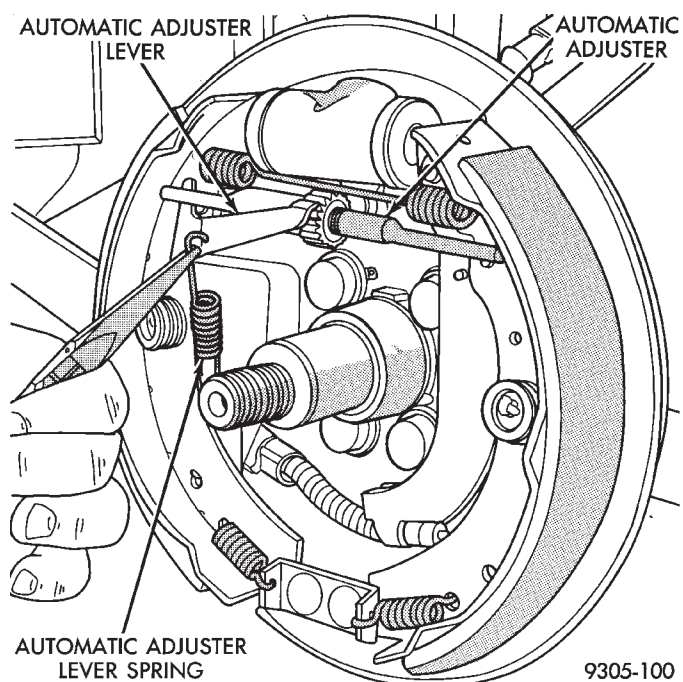

Fig. 2 Rear Hub And Bearing Retaining Nut Removal
(2) Remove the rear hub and bearing assembly retaining nut and washer (Fig. 2). Remove rear hub and bearing assembly from spindle.
(1) Install rear hub and bearing assembly on rear spindle. Install hub and bearing assembly washer and retaining nut (Fig. 2). Torque hub and bearing assembly retaining nut to 168 N•m (124 ft.lbs.). Install nut lock and cotter pin on spindle.